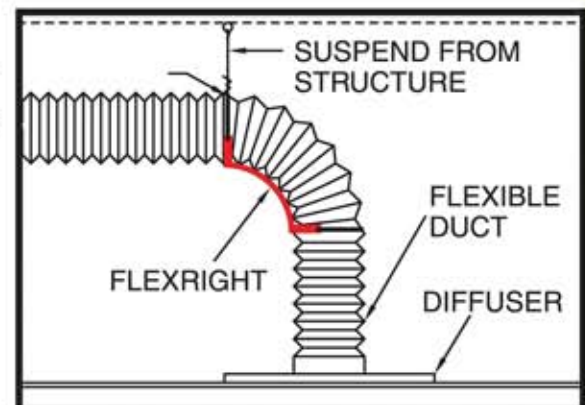

Figure 3 - Alternate installation
5. See (Fig 3) for optional installation.